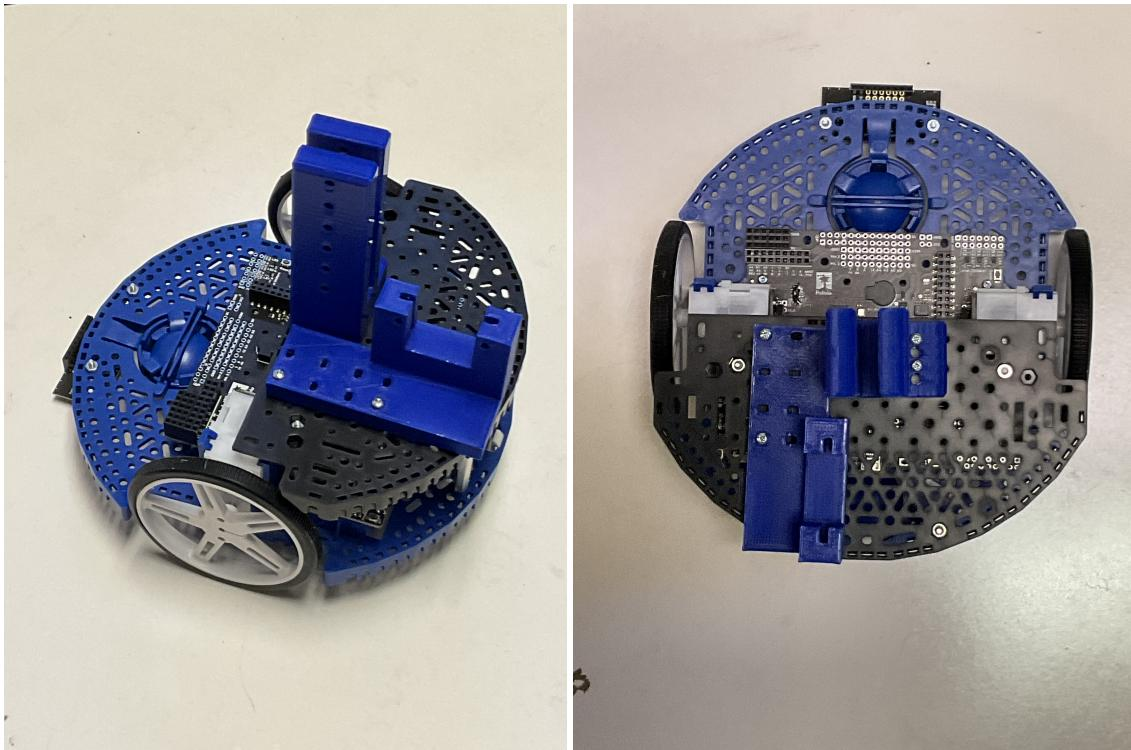
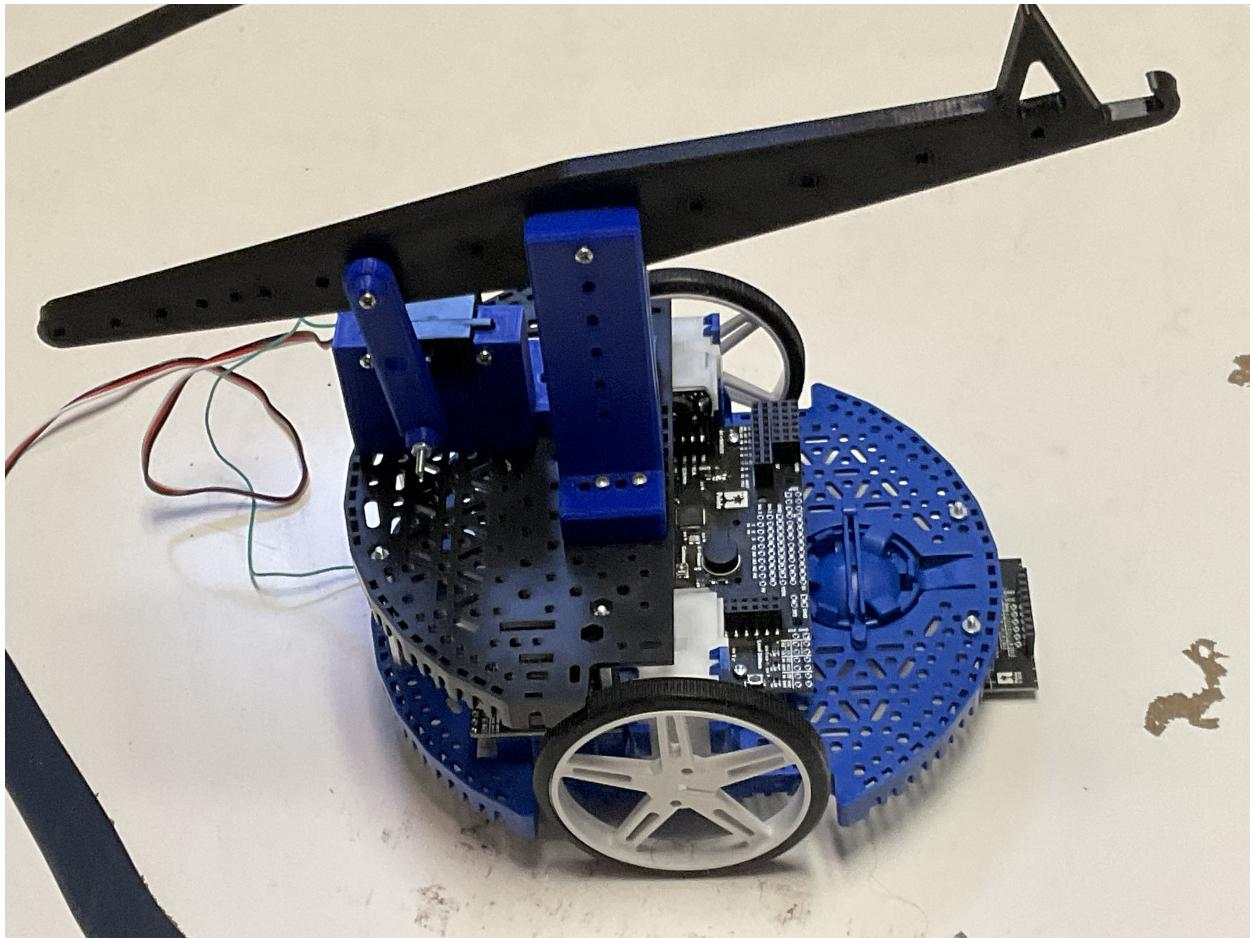

Figure 4: Servo and arm mounts mounted. Once you install the mounts, you can attach the expansion plate to the base, as shown in this figure.
Figure 8: Romi with arm assembly complete.
2. Attach the servo and arm mounts to the expansion plate with 3/4" screws. Relative alignment is important so that the coupler can connect the servo horn to the arm. Figure 8 shows what you are working towards. Figure 4 shows a good starting configuration for the mounts.
6. Attach the expansion plate/arm assembly to the Romi base, as shown in Figure 8.